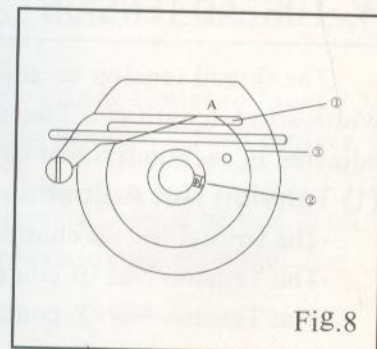

Fig.8
## (4) Chain looper thread cam control.Fig.8